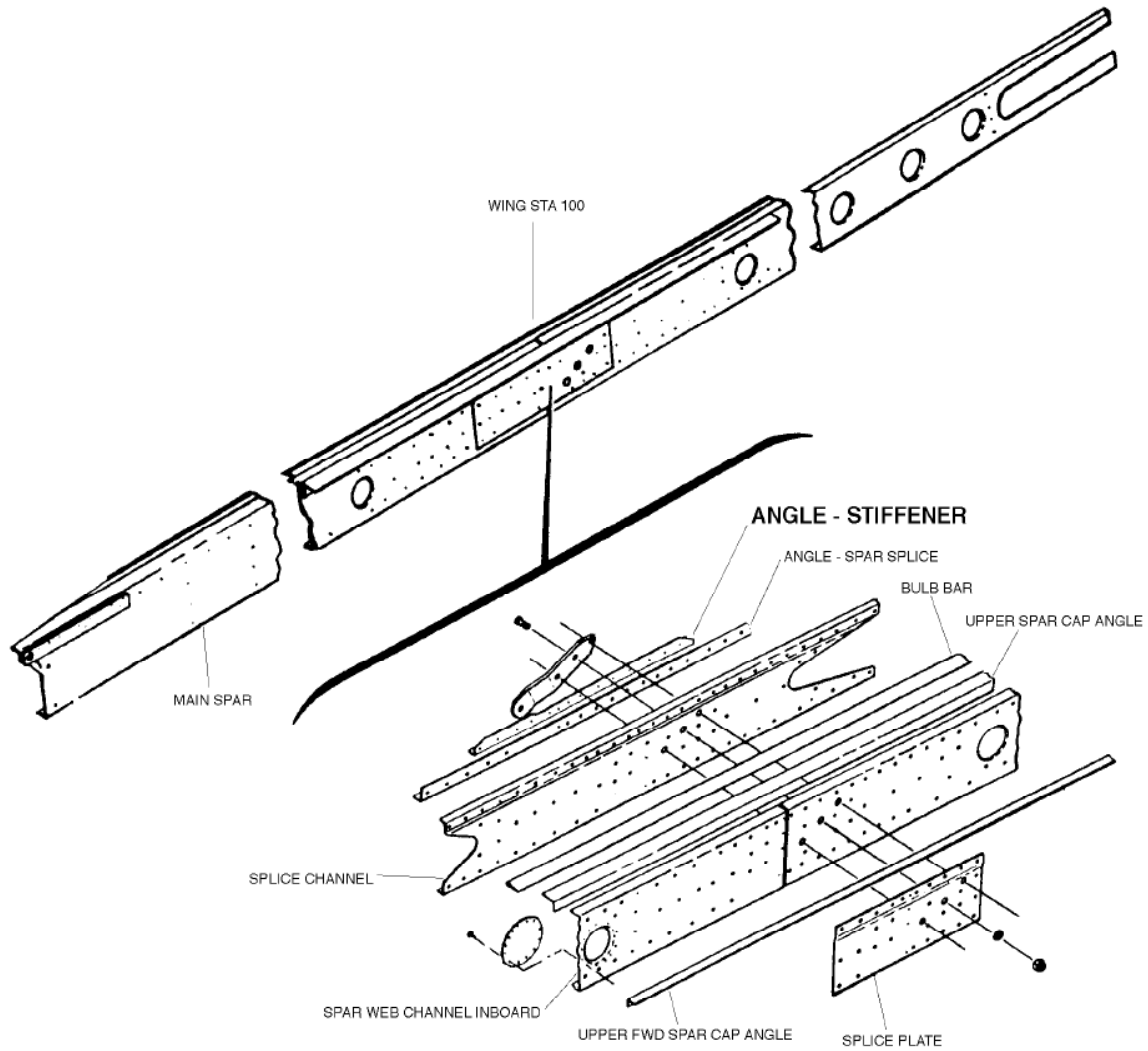

Figure 1: Spar Construction Detail
- 3) Open the inspection hole situated on the underside of the wing, aft of the spar, closest to where the strut connects to the wing. Using a flashlight and a mirror, by visual inspection, ascertain if the subject wing has the “angle stiffener” installed along the lower spar cap between Wing Station 90 and 110 (approximately). Refer to Figures 1 and 2 and 3 to assist identification of the “angle stiffener”.